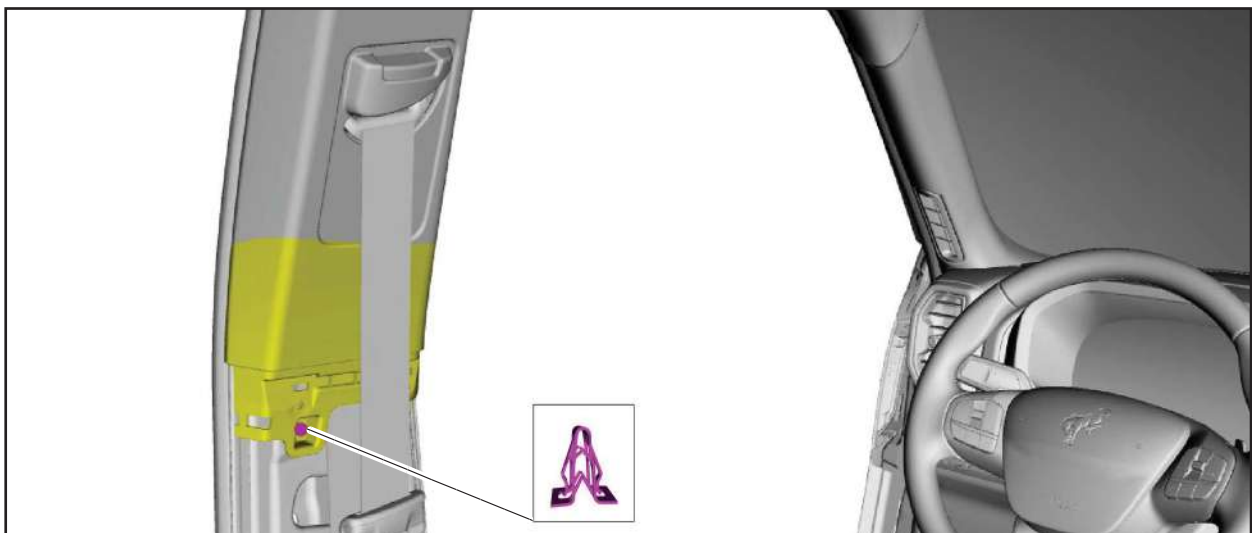

FIGURE 7
7. Release the upper B-pillar trim panel lower clip. See Figure 7.